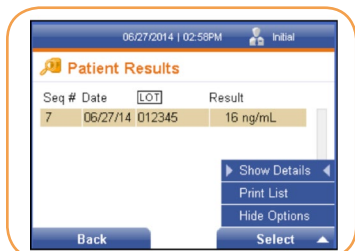

FIGURE 67
1. From the *Patient Results* screen, press the right soft key to display the Options menu (Figure 67).